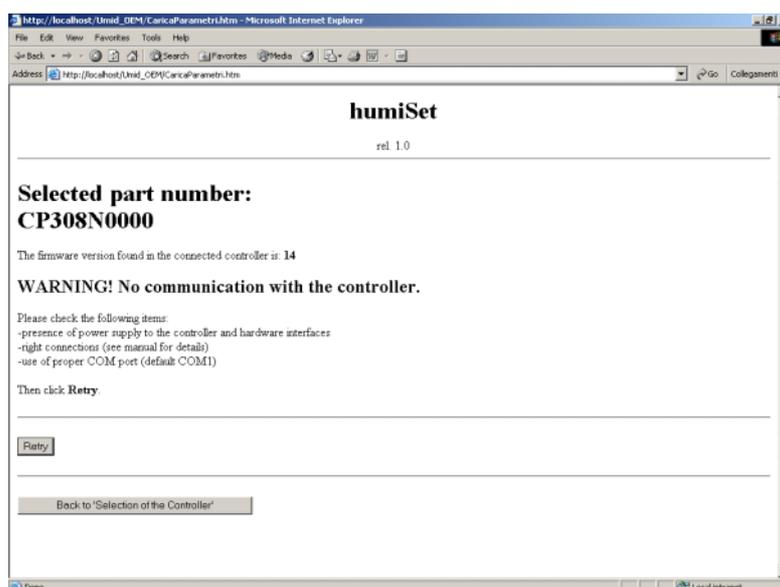

Figure 38
- Conversely, if the communication between **humiSet** and the controller is broken, the following page will be displayed (Figure 38):